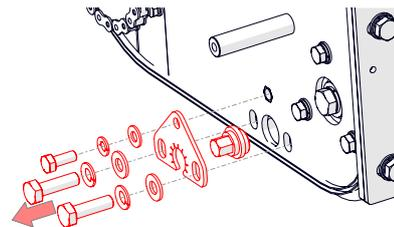

Fig.12I - Remove the RH 3 x shear blade bolts and cam
9. Support the shear blade carrier and remove the 2 x M10 bolts and 1 x M8 bolt of the right hand shear blade carrier [17 mm & 13 mm spanner] (Fig. 12I). Remove the plate and cam bolt. Lower the whole carrier to the floor gently.